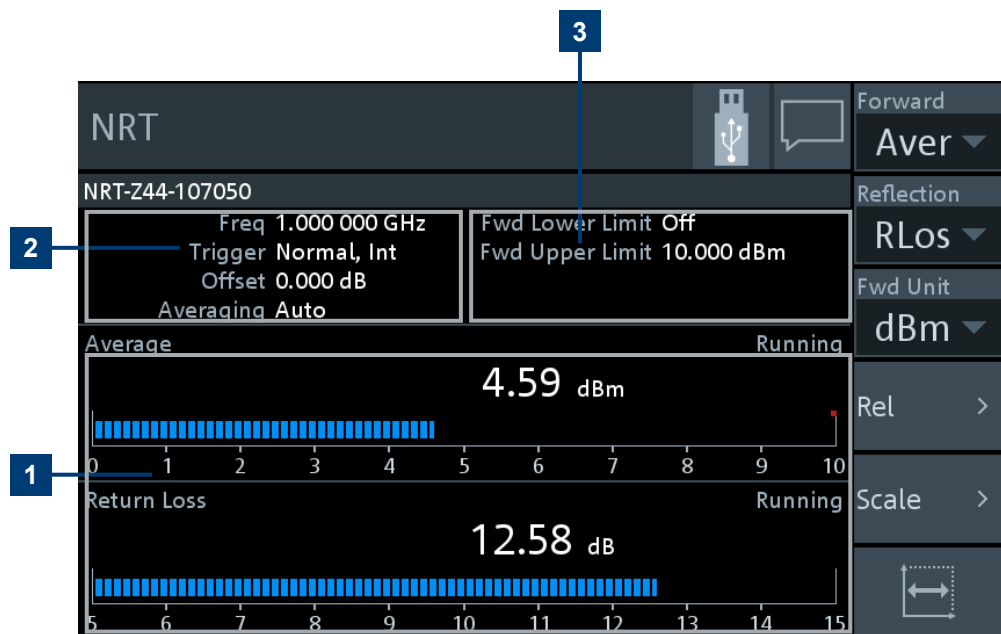

Figure 4-2: Layout of the measurement pane
- ▶ Tap the *displayed settings*, (1) in Figure 4-2, to access the sensor settings. The "Channel Configuration" dialog is displayed. See Chapter 6, "Sensor Configuration", on page 50.
- ▶ Tap the *displayed limit values*, (2) in Figure 4-2, to change limit values. The "Limit Monitor" dialog is displayed. See "Limit Monitor" on page 48.
- ▶ Tap the *displayed measurement value or graph*, (3) in Figure 4-2, to configure the measurement, the display and the sensor. The "Measurement Overview" dialog is displayed. See Chapter 5, "Measurement and Display Configuration", on page 36.